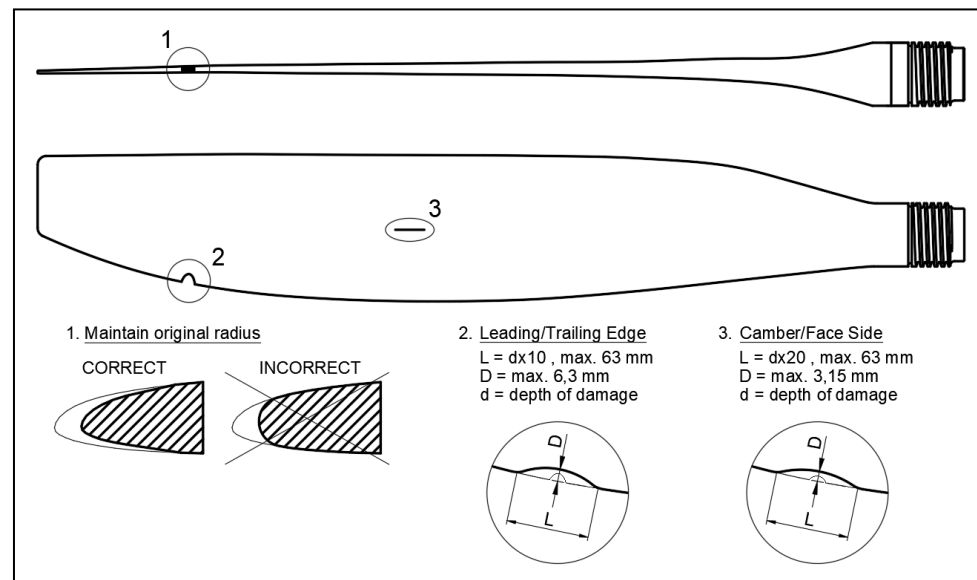

FIGURE 6-5
- (1) Repairs to the leading and trailing edge, as well as and to the face and camber side, are to be accomplished by removing material from the bottom of damaged area. Remove material from this point out to both sides of the damage, providing a smooth, blended depression which maintains the original airfoil general shape.
- (2) Repairs may be made using files, electric or air powered equipment. Emery cloth, Scotch-Brite, and crocus cloth are to be used for final finishing to remove any traces of filing.
- (3) The area of repair should be determined as follows (figure 6-5):